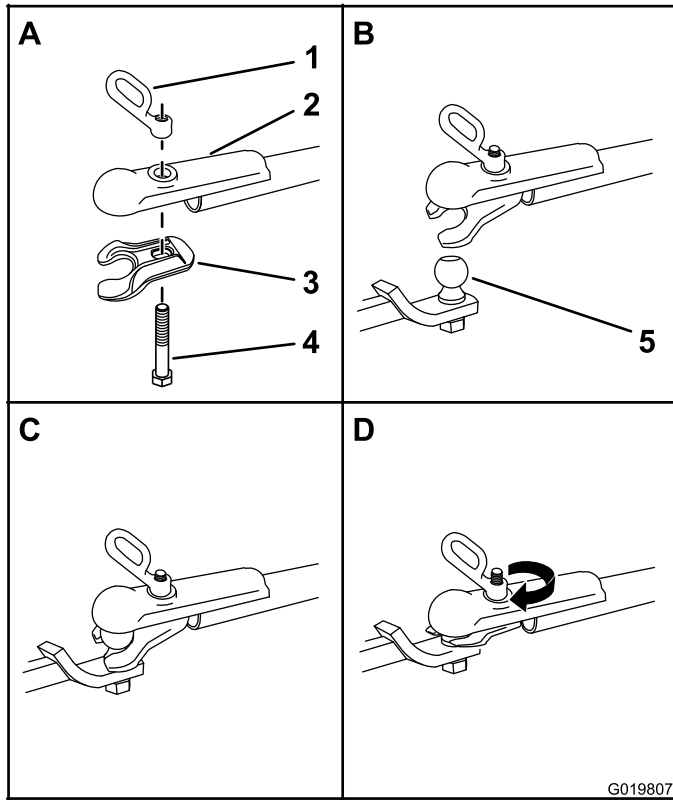

Figure 16
1. Apply removable thread-locking compound to the threads of the coupler bolt to prevent the coupler handle from coming loose (Figure 16).